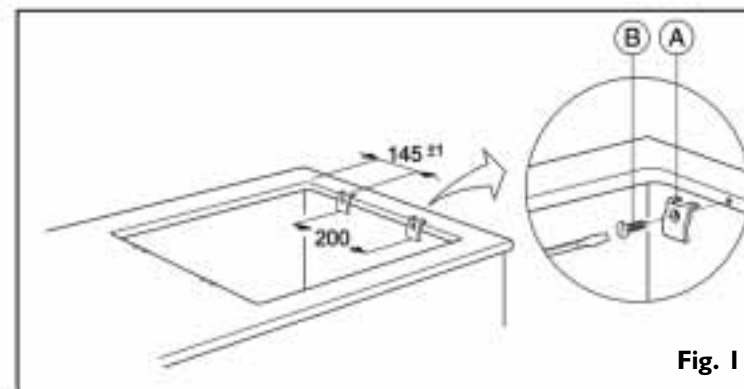

Fig. 1
1. Secure the spring clips **(A)** (fig. 1) with the screws provided **(B)** (fig. 1) as shown, paying attention to the specified distances.
1. Fit the hob into the worktop (fig. 1).